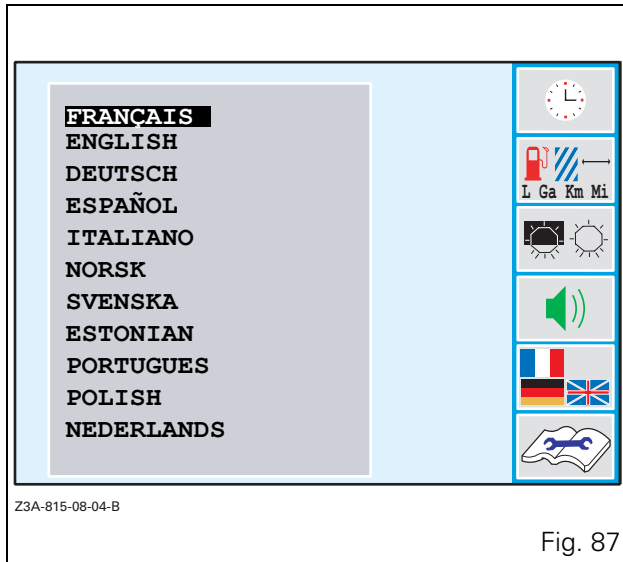

Fig. 87
- Press the key <<5 when the window (Fig. 85) is open. The window (Fig. 87) is displayed.